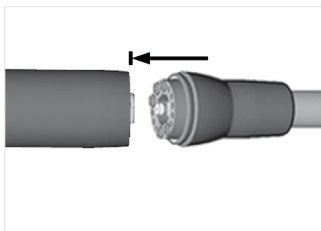

FIG. 2
2. Connect the motor to the proprietary hose (with connector type MX2) as shown in FIG. 2.